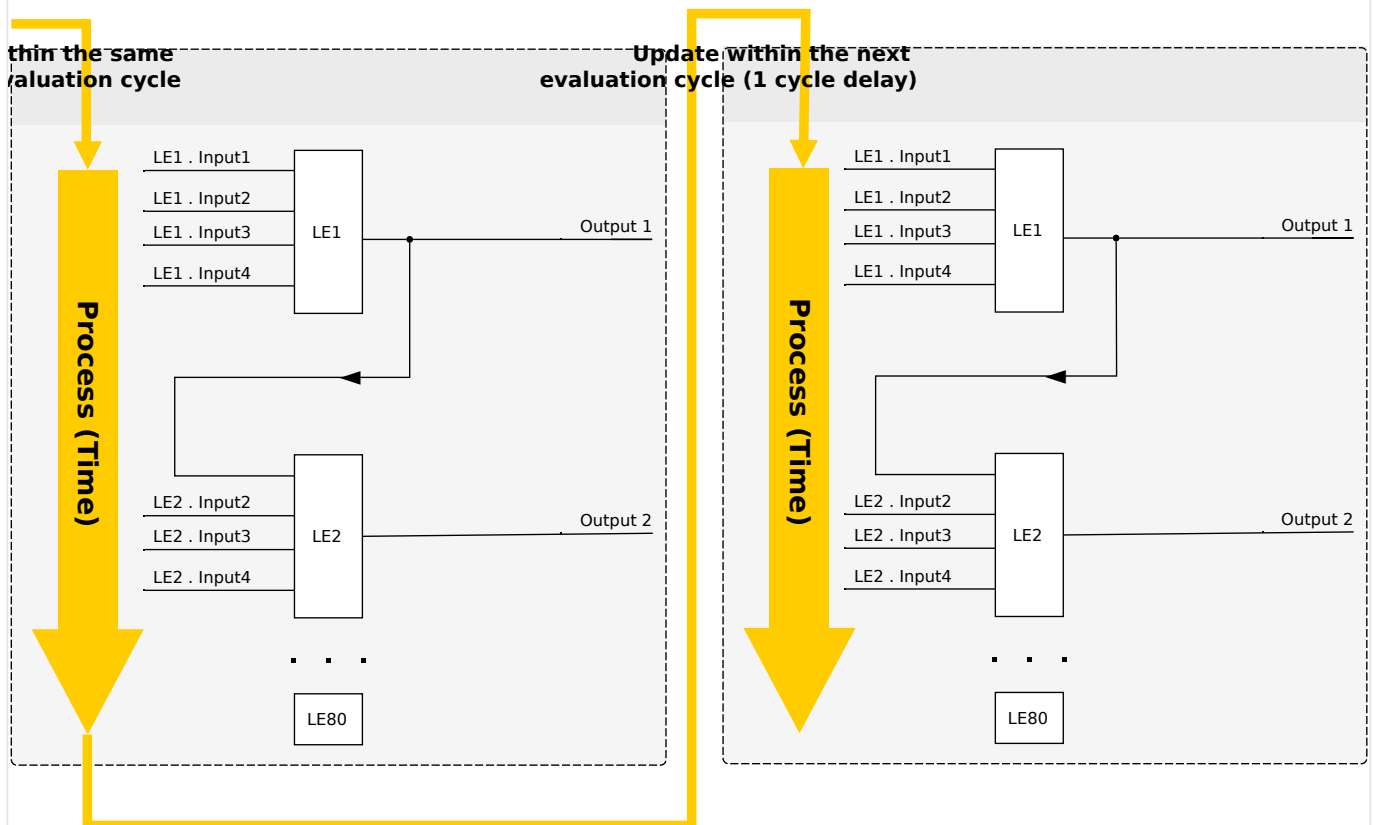
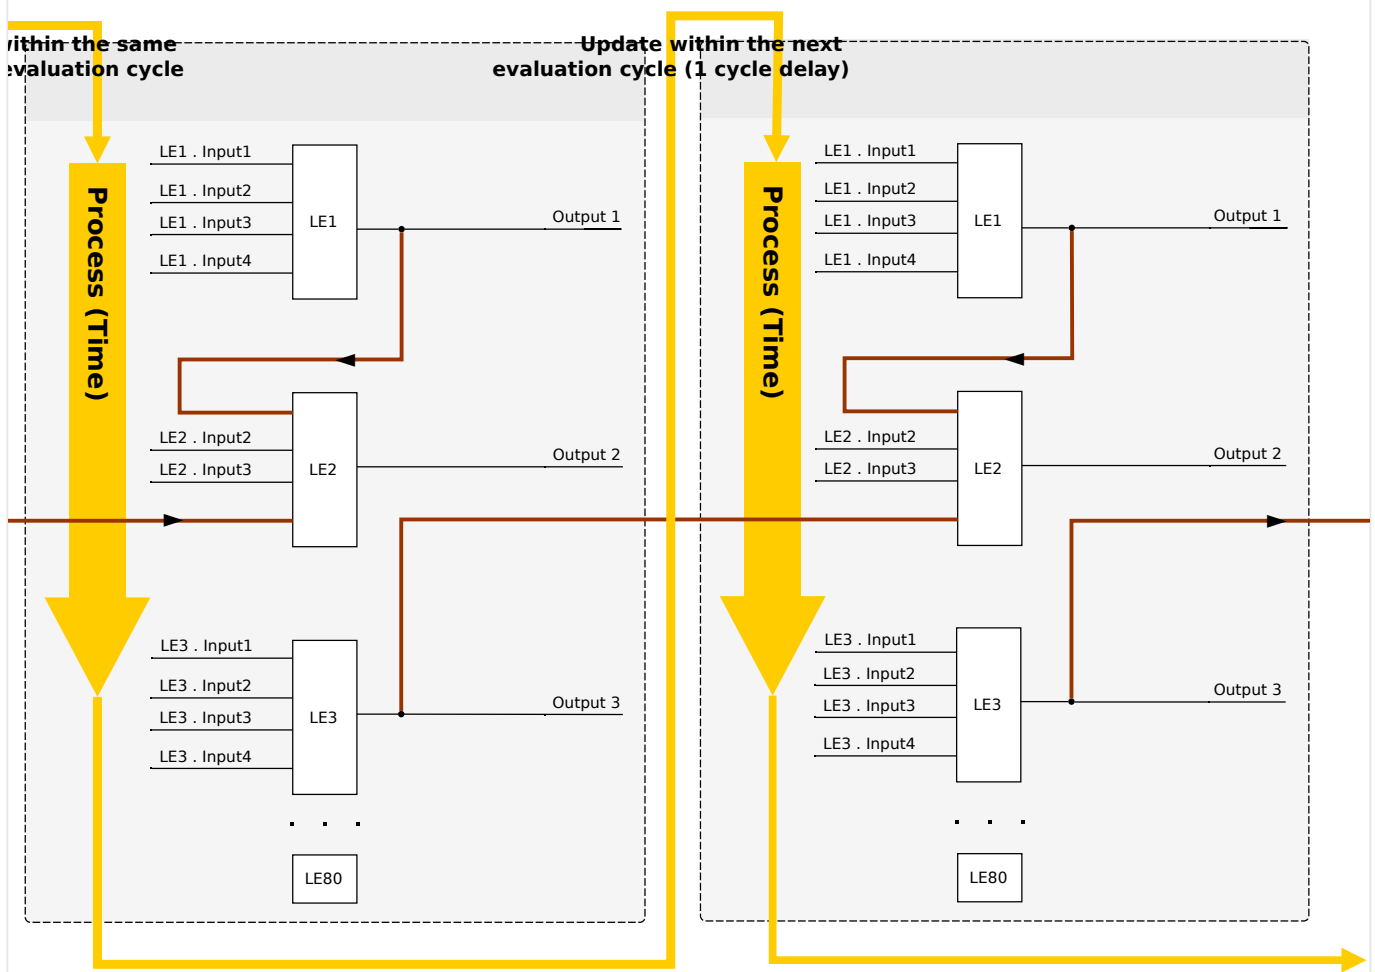

Fig. 211: Cascading in Ascending Order.
Fig. 212: Cascading in Descending Order.
- **Ascending** sequence means that some output is fed into the input of a logic equation with **higher** number. For instance, diagram ↪Fig. 211 below shows an example where the result of Logic Equation LE1 is used as an input of Logic Equation LE2.
- **Descending** sequence means that some output is fed into the input of a logic equation with **lower** number. For instance, diagram ↪Fig. 212 shows an example where the result of Logic Equation LE3 is used as an input of Logic Equation LE2.
Both ascending and descending sequences may be used and combined one with the other, with no immediate difference. However, due to the evaluation of all equations in ascending order the actual run-time values that are fed in at the input of an equation will have a different “age”, as is shown in ↪Fig. 211 and ↪Fig. 212 below.
In the example shown in Fig. 212 above, “Logic Equation 2” uses the output states of two other equations, “Logic Equation 1” and “Logic Equation 3”. The result of “Logic Equation 1” is used in ascending order and has therefore been evaluated within the same process cycle. The result of “Logic Equation 3” is used in descending order and has therefore been evaluated in the previous process cycle.